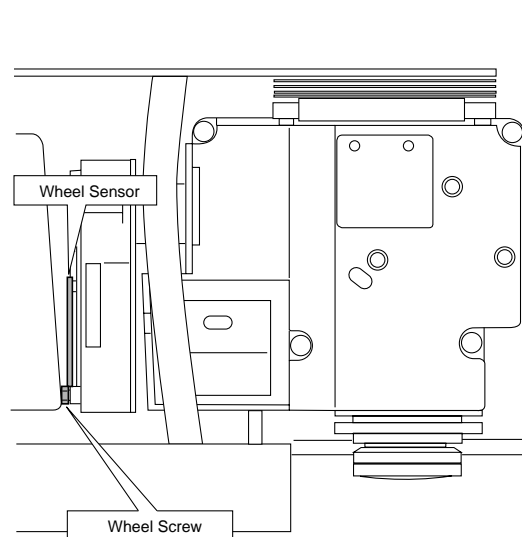

Fig.2
5. When part of the image does not appear in red, loosen the wheel screw shown in Fig. 2 below and slide the wheel sensor up or down. Fix the wheel sensor again at the position where the color deviation disappears.